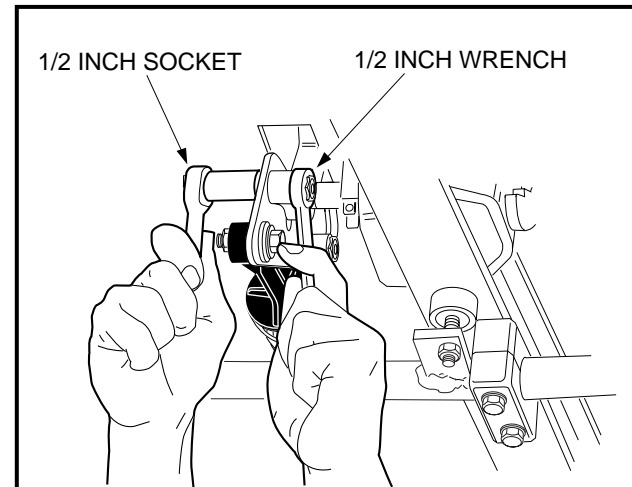
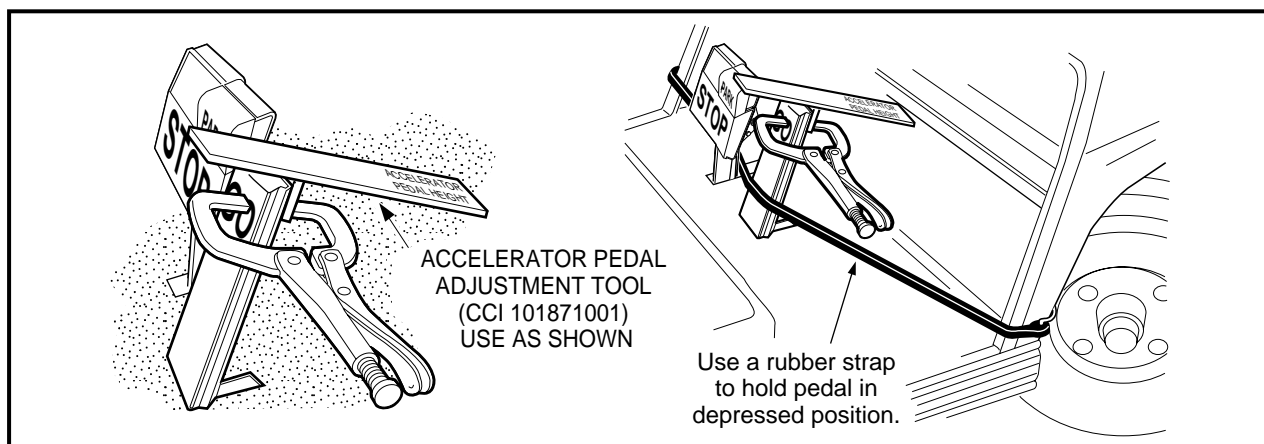

Figure 5-15 Accelerator Pedal Height Adjustment
Figure 5-16 Accelerator Pedal Height Adjustment
- 3.1. Loosen the nut and bolt (**Figure 5-15, Page 5-10**) securing the accelerator pedal to the pivot plate. Clamp the accelerator pedal adjustment tool (CCI 101871001) to the accelerator pedal, with the end marked **accelerator pedal height** closest to the floorboard. Depress the accelerator pedal until the end of the tool rests against the floorboard; pedal height should be 5-5/8 inches (14.3 cm). Use a rubber strap to hold pedal in position against the floorboard and then tighten nut to 26 ft-lb (35.3 N·m) (**Figure 5-16, Page 5-10**).